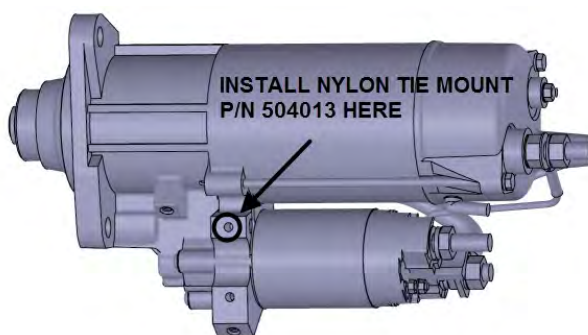
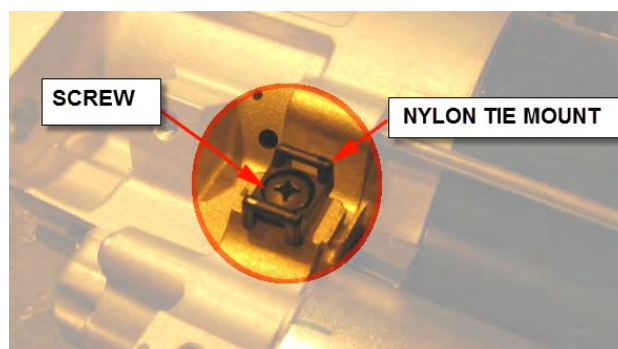

FIGURE 6
FIGURE 7
- e) Install a nylon tie mount p/n 504013 on the starter. Refer to FIGURE 6 for proper location. Secure the nylon tie mount with one screw p/n 502817 (FIGURE 7).